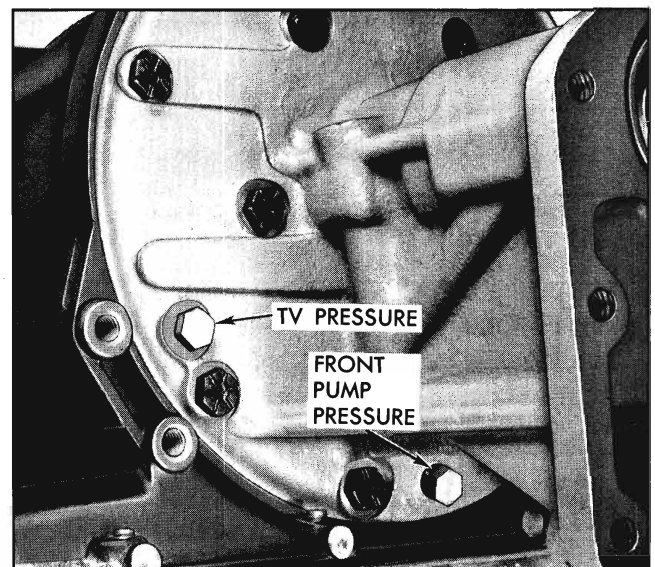

Fig. 7A-79 Pressure Tap Locations
Two pressure tap plugs in the extension housing are accessible, front pump pressure is at the 6 o'clock position and throttle valve (TV) pressure is at the 8 o'clock position (Fig. 7A-79).